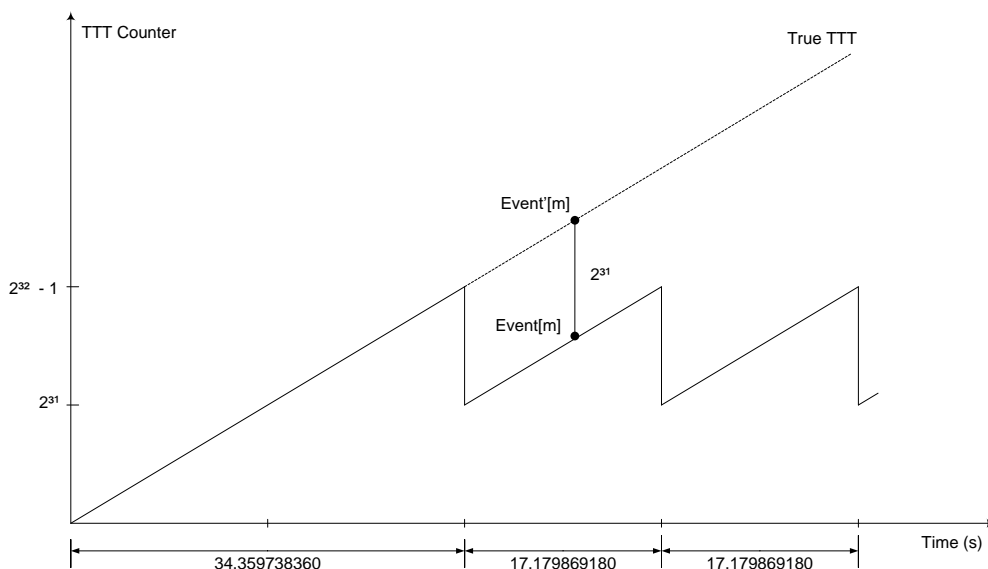
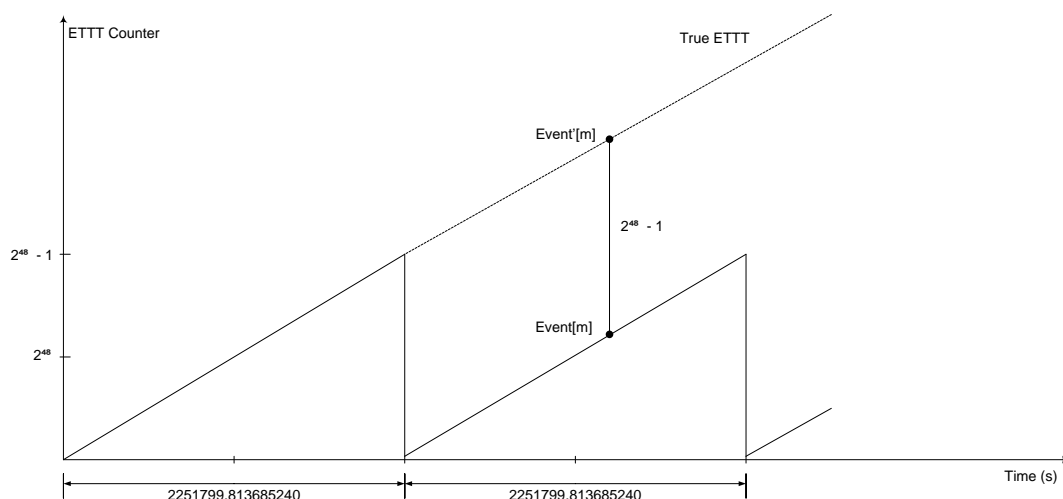

Fig. 9.8: TTT description
Fig. 9.9: ETTT description
- TRIGGER TIME TAG** (bit[31:0] of 4th header word) is the Trigger Time Tag information (TTT), which is the trigger time reference (see Sec. **Acquisition Triggering: Samples and Events**). The word is composed of the value of the 31-bit counter of the Trigger Time Tag (bit[30:0]) plus the overflow bit (bit[31]) indicating that the timestamp counter has overflowed at least once (**Fig. 9.8**). If the ETTT option is enabled, then this field becomes the 32 less significant bits of the 48-bit Extended Trigger Time Tag information in addition to the 16 bits (MSB) of the TRG OPTIONS field (2nd event word). Note that, in the ETTT case, the overflow bit is no more provided (**Fig. 9.9**). The trigger time tag is reset either after each start of acquisition or via front panel signal on GPI connector and increments at the frequency of 125 MHz (8ns). The trigger time tag value is then read at half this frequency (62.5 MHz), so the Trigger Time Tag specifications result in 16 ns resolution and 17 s range (i.e. $8 \text{ ns} \cdot (2^{31}-1)$), which can be extended to 625 h (i.e. $8 \text{ ns} \cdot (2^{48}-1)$) by the Extended Trigger Time Tag option.